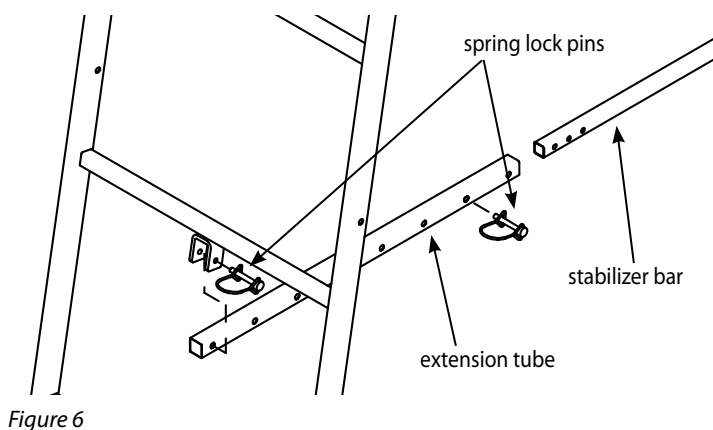

Figure 6
11. a. Attach the stabilizer bar extension tube (1ML23) to the second ladder section mounting bracket using (1) provided spring lock pin. **SEE FIGURE 6.**
b. Slide the stabilizer bar (L17) into the extension tube and attach the two pieces together using (1) provided spring lock pin. Spring lock pin must go through both the extension tube and stabilizer bar at appropriate hole to achieve desired distance from tree. Adjustment in length may be needed when ladder is uprighted later in instructions. **SEE FIGURE 6.**